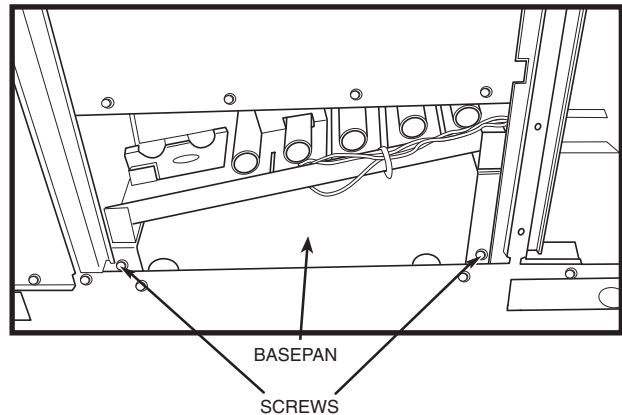

Fig. 3 — Removal of Burner Assembly from Basepan
11. Remove the 2 screws securing the burner assembly to the basepan. Save screws for re-installation of burner assembly. See Fig. 3.